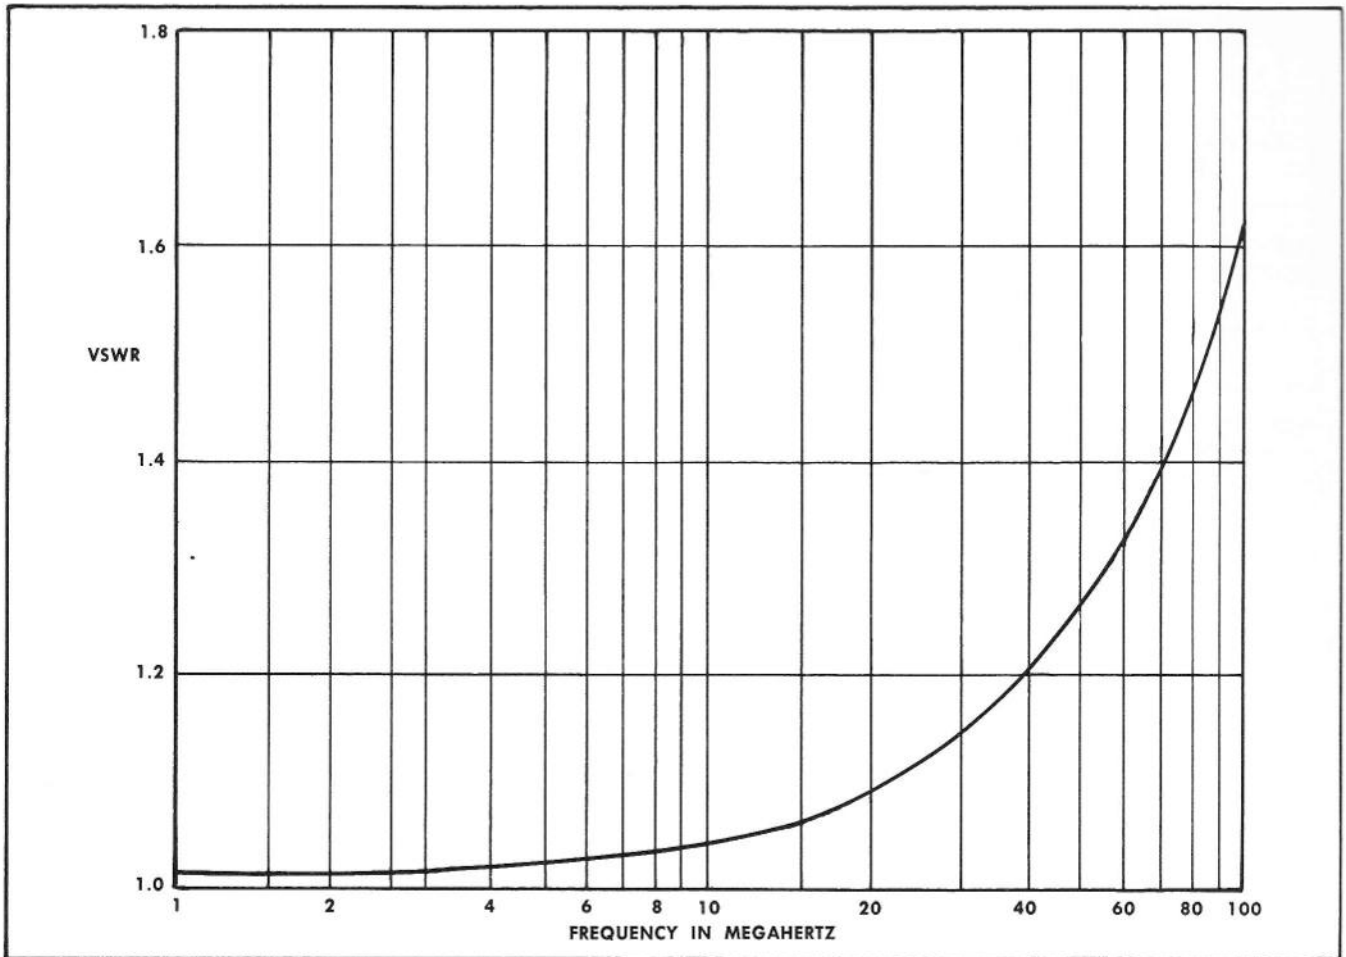

Fig. 2-1. Typical VSWR versus frequency curve measured at the Type 86 input connector. The signal source was terminated into 50 ohms at the connector.
(9). If you are working with 50-ohm systems, you may need to use the VSWR versus frequency curve shown in Fig. 2-1. The curve was obtained using a signal source which was terminated into 50 ohms at the input of the Type 86. The termination which was used is a type that has BNC connectors on each end (Tektronix part number 011-0049-00). If a 50-ohm 10:1 attenuator (Tektronix part number 011-0059-00) is connected between the signal source and the termination, the VSWR will be the same as the VSWR of the 10:1 attenuator.
(10). Applies only to units below SN 3000. In fast-rise pulse applications where a step function with a risetime of 10 nanoseconds or less is applied to the Type 86, clean reproduction of the step function can be obtained (limited only by the risetime of the system) for all except the three highest positions of the VOLTS/CM switches. The three highest positions are: 5 (.5), 10 (1) and 20 (2). In these positions, aberrations occur on the rising portion and leading corner of the waveform.